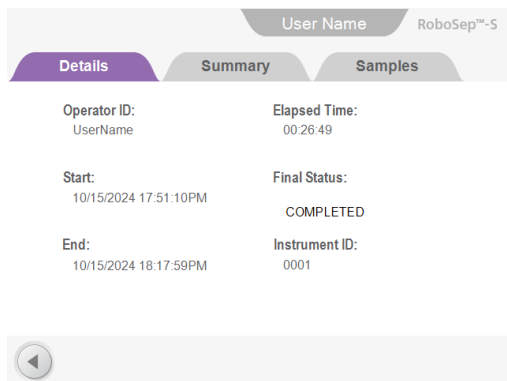

Figure 25. Report Details View
3. Select View Report to view details of the report directly on the software user interface (Figure 25).